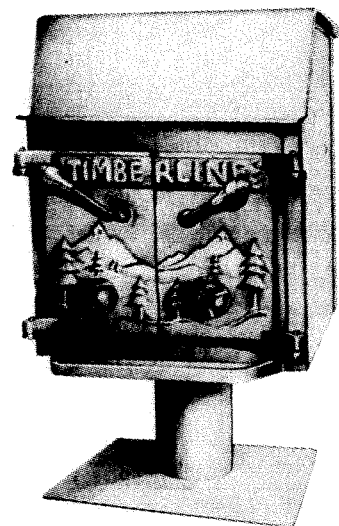

Fig. 50. Timberline freestanding fireplace/stove.
29. **Timberline Stoves Ltd.** (manufacturer), 110 E. First St., East Syracuse, NY 13057. Both models come with spark screen and horizontal baffle as in Scandinavian models. Each Timberline (Fig. 50 and Table 5) has two spin-wheel draft controls, one on each front door.